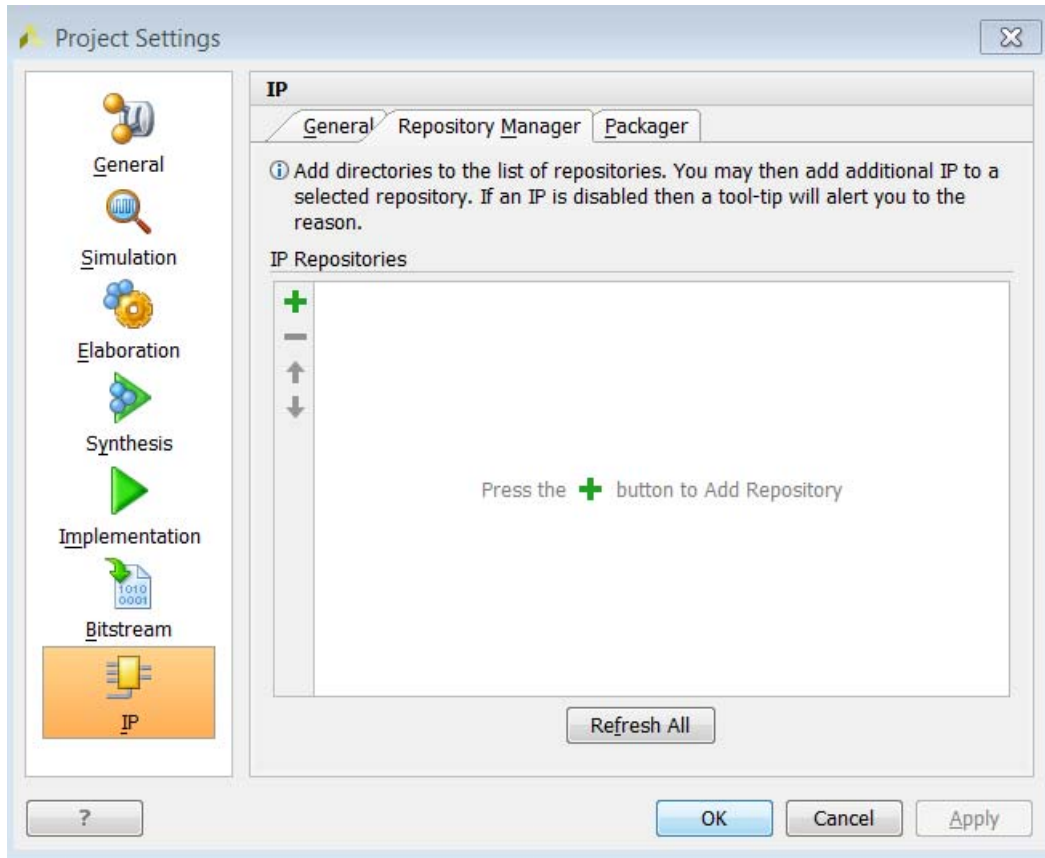

Figure 2-2: IP Project Settings: Repository Manager
- b. In the **IP in Selected Repository** section, shown in Figure 2-2: